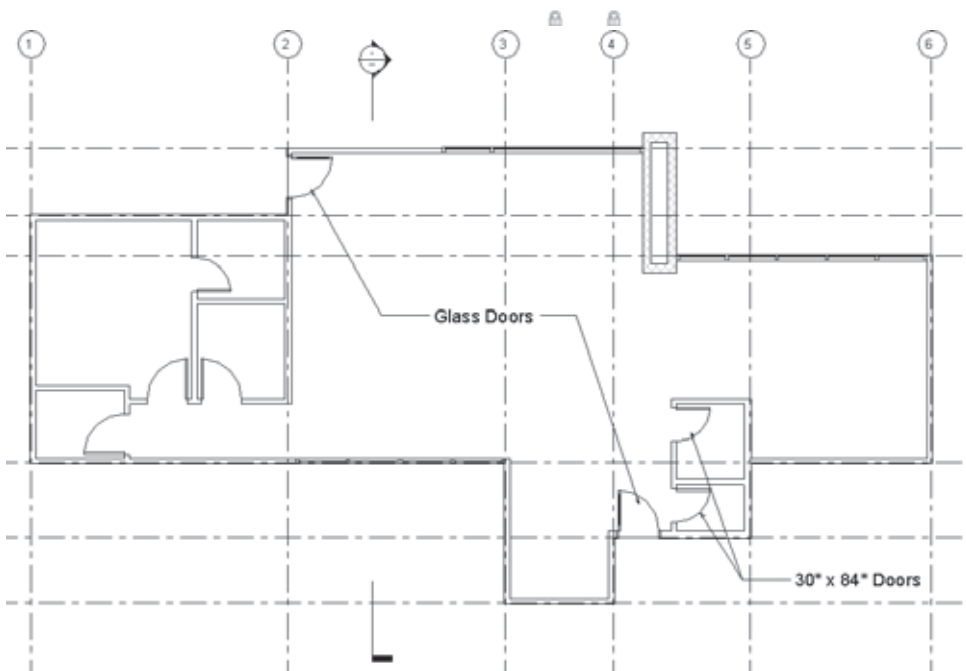

Figure 4.101
11. Place more doors in the project: glass doors for the exterior doors and smaller doors for the bathroom and the closet near front entry. Figure 4.101 shows additional door locations.